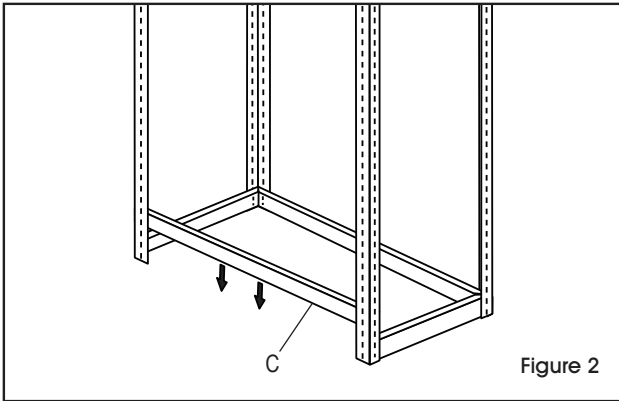

Figure 2
2. Connect the two upright post assemblies by inserting front/back supports (C) at the bottom of the upright posts. (See Figure 2)